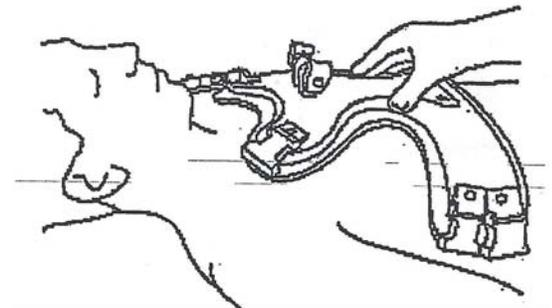

Figure 2: Applying the contoured vest.
3. Apply the contoured vest to the patient (FIGURE 2). Remove the tubular padding from the waist strap and adjust the waist belt length to the approximate length needed for the patient. Slide the waist belt and attach the waist belt to the lower chafe on the vest. Waist buckles are black and numbered "5". Slide the waist belt under the patient and fasten snugly to the opposite side chafe. Slide the shoulder straps under the back in a crisscross manner and fasten snugly to the upper chafes on the vest. Shoulder straps have matching grey and white